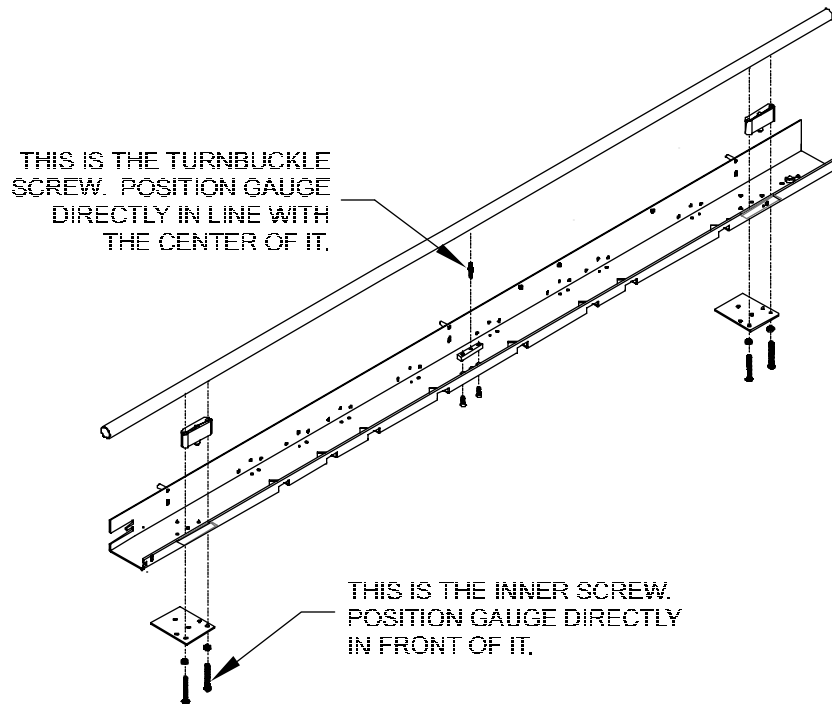

Figure 3-13. Slide Shaft Profile Adjustment.
4. Measure just off the center of the slide shaft and adjust the center turnbuckle with an open ended wrench if required, for the average value (the value found in step 3.) See Figure 3-13.